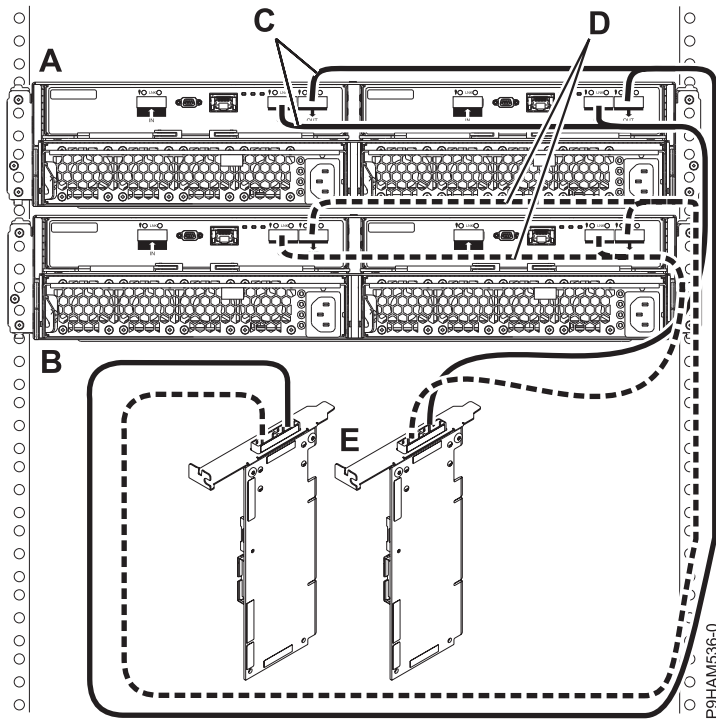

Figure 26. Mode 1 connection of two 5887 disk drive enclosures by using YO cables to a SAS adapter pair
17. Complete a mode 1 connection of two enclosures (**A and B**) by using YO cables (**C and D**) to a SAS adapter pair (**E**) as shown in Figure 26 on page 24, and then continue with “Connecting cables, power cords, and installing covers” on page 28.